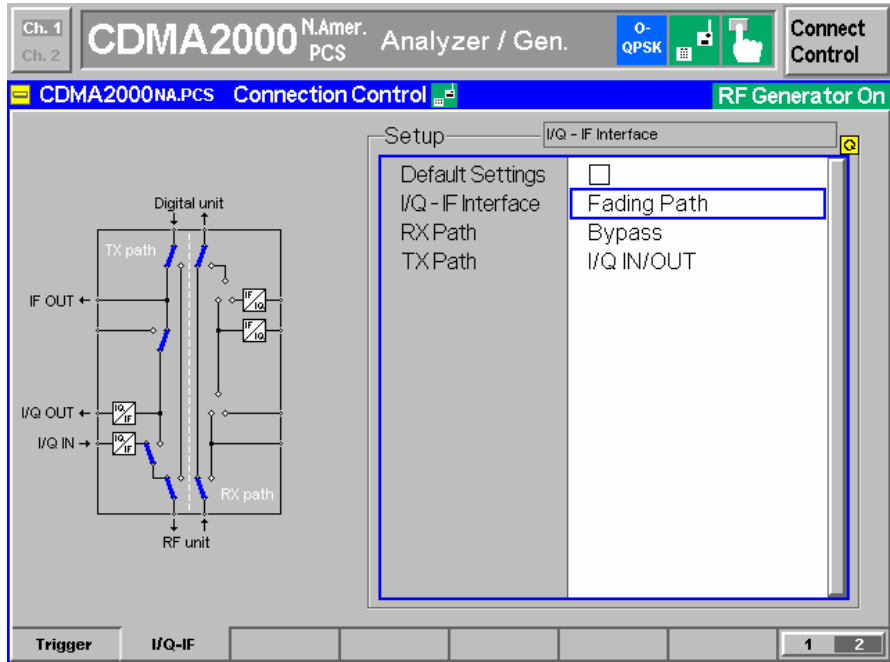

Fig. 21 IQ/IF Fading Configuration
6. The resulting Average MS Power  $P_{MEAS}$  (Fig. 23) must be subtracted from the reference power  $P_{REF}$  (Fig. 21) to obtain the **INSERTION LOSS** of the IQ path.